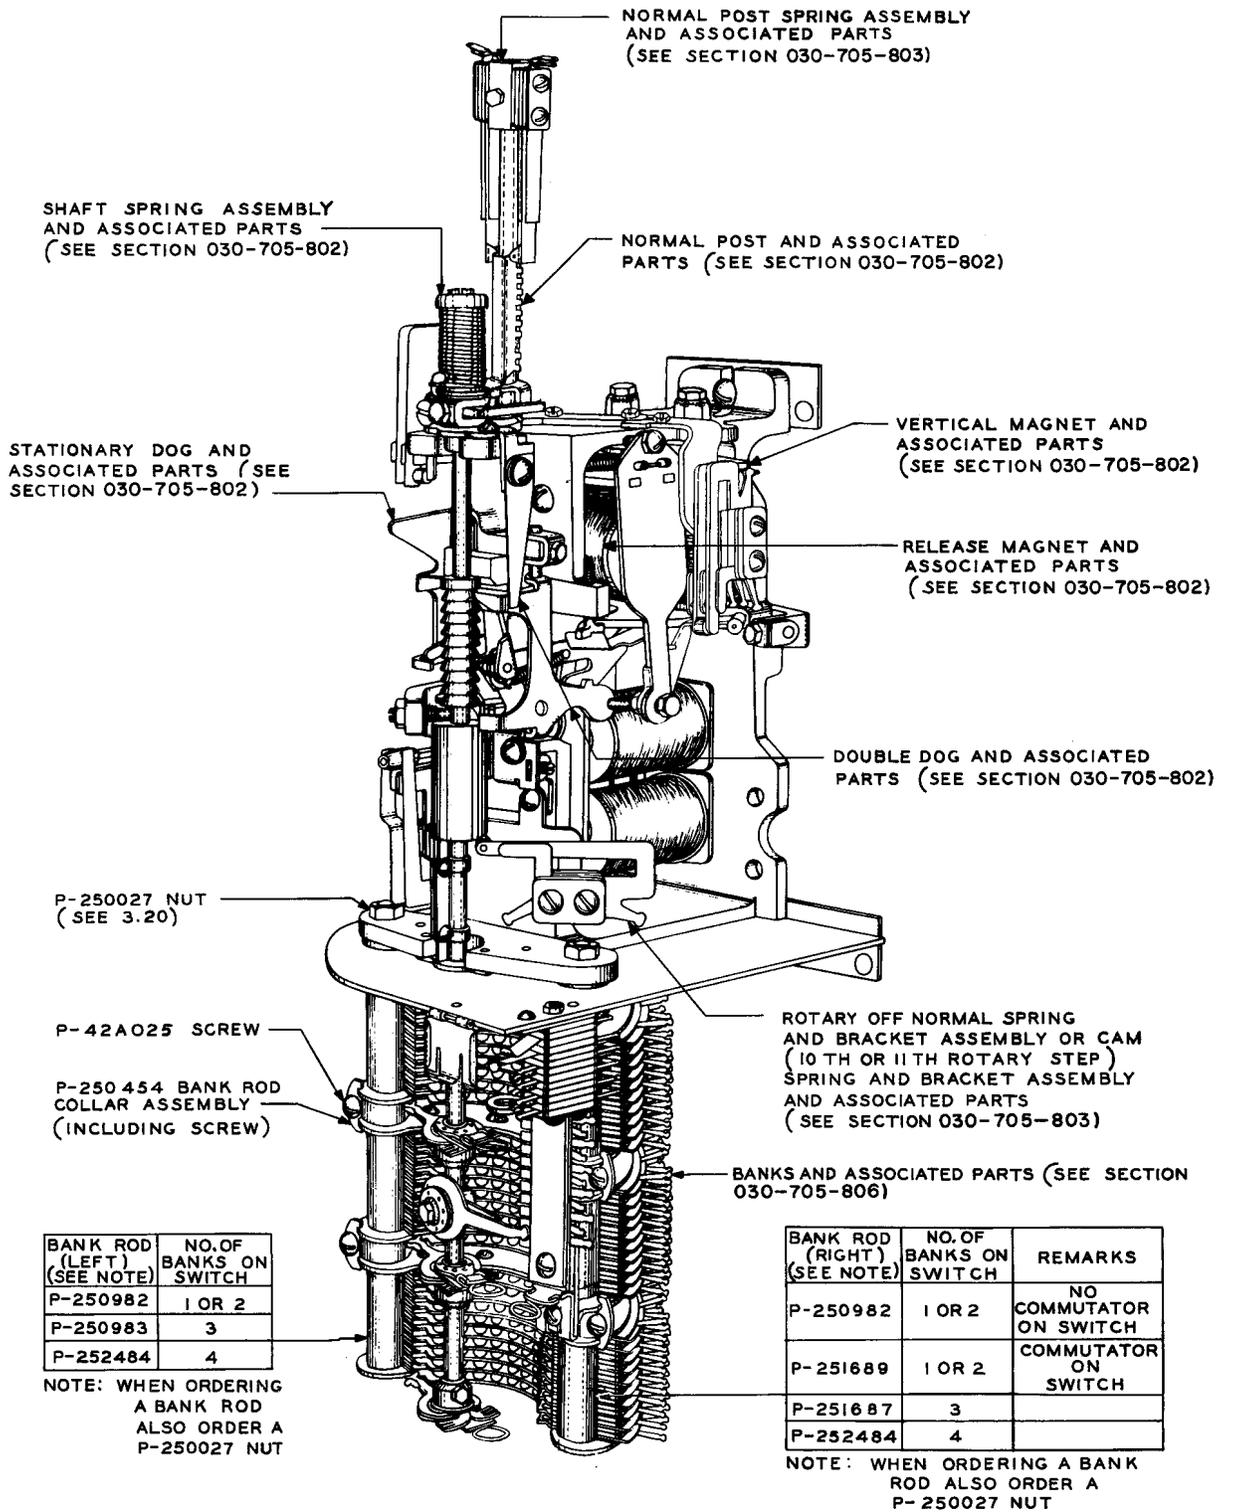

FIG. 2-PARTS OF 197 TYPE SWITCH AS VIEWED FROM THE RIGHT SIDE
8. To revise the piece part number for the bank rod collar screw (Fig. 2). (Information for WECO covered by CO-135448.)